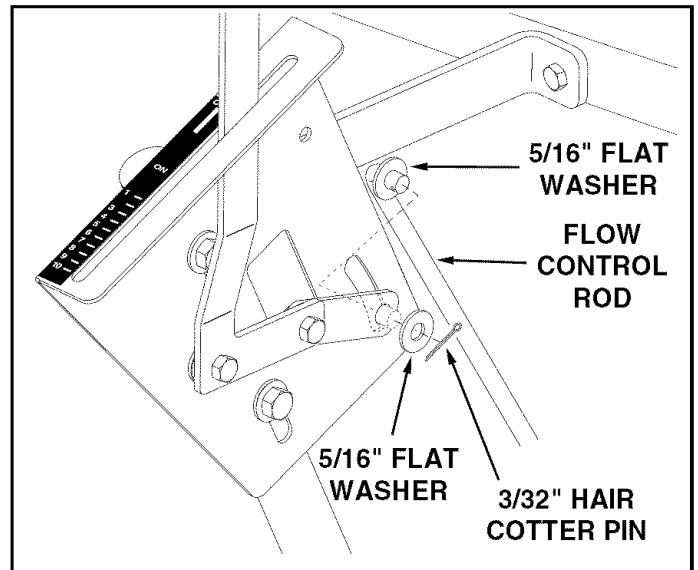

FIGURE 10
- Place a 5/16" flat washer onto the other end of the flow control rod. Insert the end of the rod through the curved slot in the flow control mounting bracket and through the hole in the flow control link. Secure with a 5/16" flat washer and a 3/32" x 3/4" cotter pin. See figure 10.